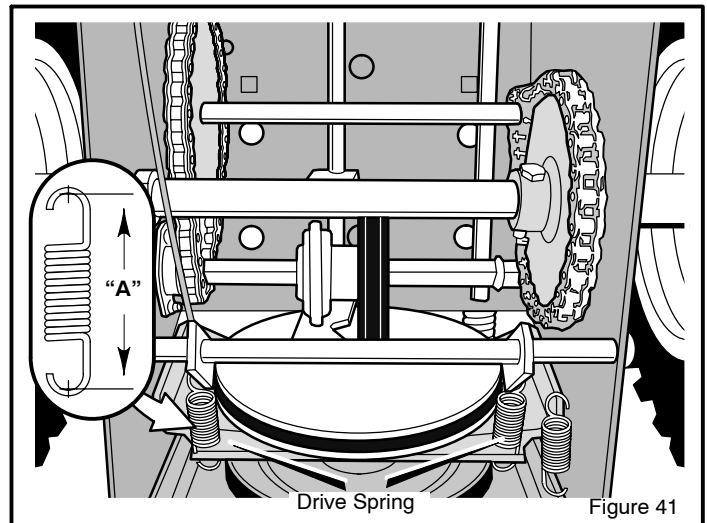

Figure 41
11. To check the adjustment, depress the drive lever and check the length of the **drive spring** (see Figure 41). In correct adjustment, the length of the **drive spring** is